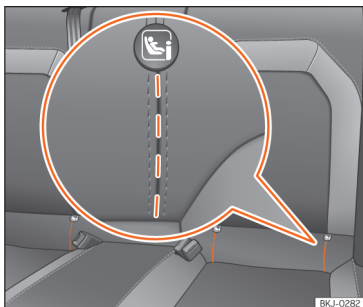

Fig. 35 Rear seat: slots pre-punched to access the ISOFIX / iSize securing rings.
The location of the ISOFIX or i-Size anchor point is indicated by a symbol »» **Fig. 35**. In some vehicles, the rings are secured to the seat frame and, in others, they are secured to the rear floor.
- First open the cut-out section behind the marked grooves to access the securing rings »» **Fig. 35**.